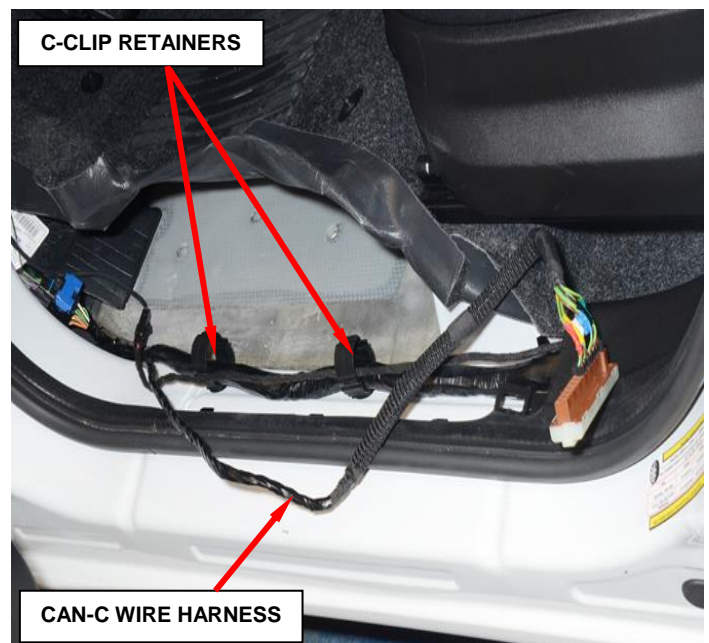

Figure 7 – CAN-C Wire Harness Retainers
2. Release the CAN-C wire harness from the two C-Clip retainers (Figure 7).